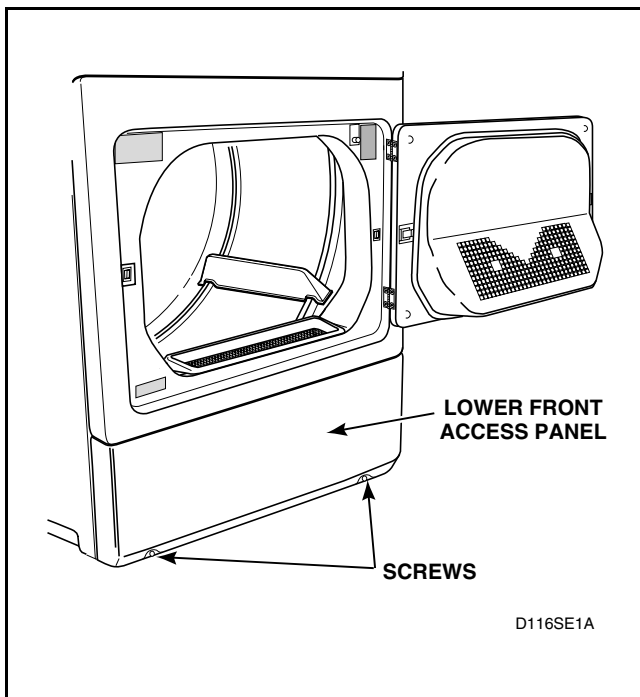

Figure 21
- While supporting the lower access panel, remove two screws from bottom edge of lower access panel. Refer to *Figure 21*.
- h. While supporting the lower access panel, remove two screws from bottom edge of lower access panel. Refer to *Figure 21*.
- i. While supporting the lower access panel, remove two screws from bottom edge of lower access panel. Refer to *Figure 21*.